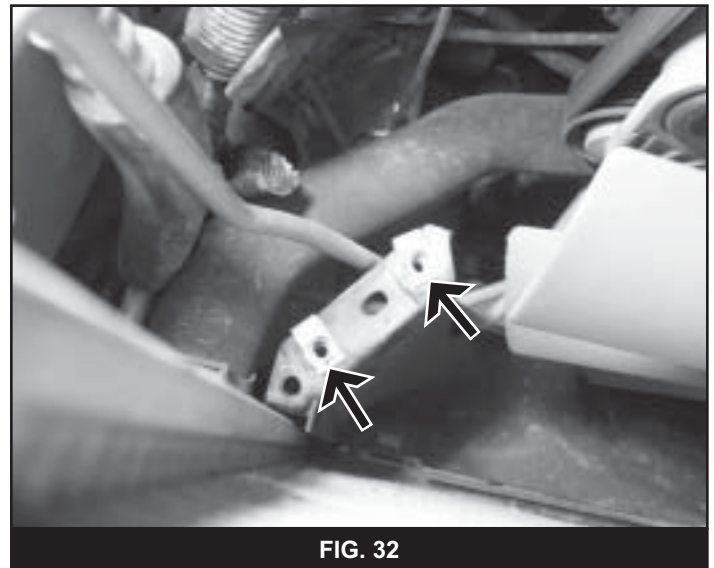

FIG. 32
73. Remove the four nut clips from the lower radiator fan shroud (Fig 32).